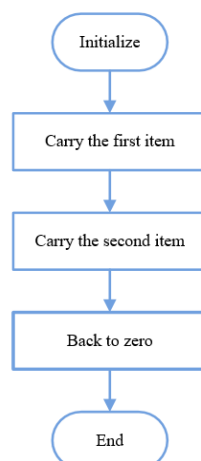

Figure 2.21 Flowchart of transporting two objects
(2) Design Program
Step 1: According to your observation, read the flowchart of moving upwards 4 times by the robot arm, as shown in Figure 2.21.